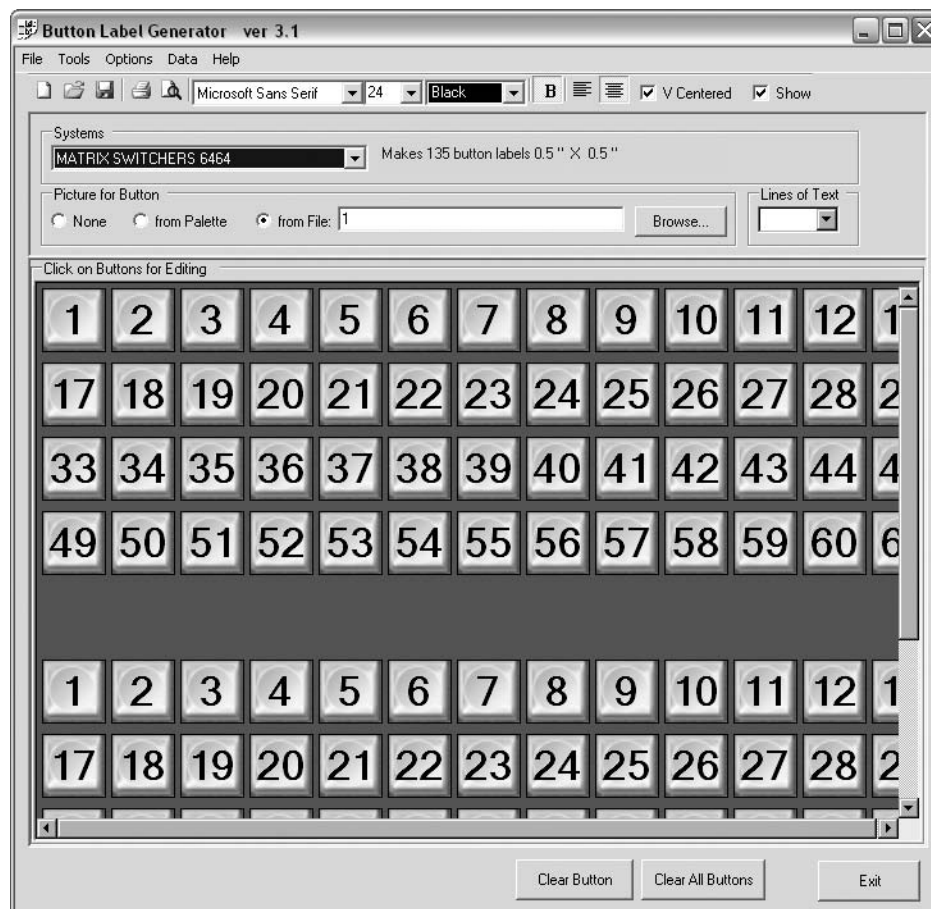

Figure 5-23 — Extron's Button-Label Generator window
1. To run the Button-Label Generator program, click **Start > Programs > Extron Electronics > Button Label Generator > Button Label Generator**. The Button-Label Generator window appears (figure 5-23).